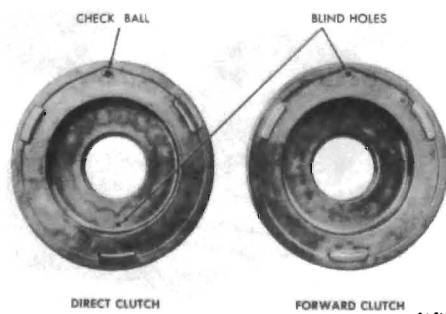

Figure 76-656
**reverse the pistons during reassembly, therefore care should be exercised to make certain the proper piston be installed in the clutch assemblies as shown in Figure 76-656. The forward clutch piston can be identified by the blind hole in the clutch apply face of the piston.**